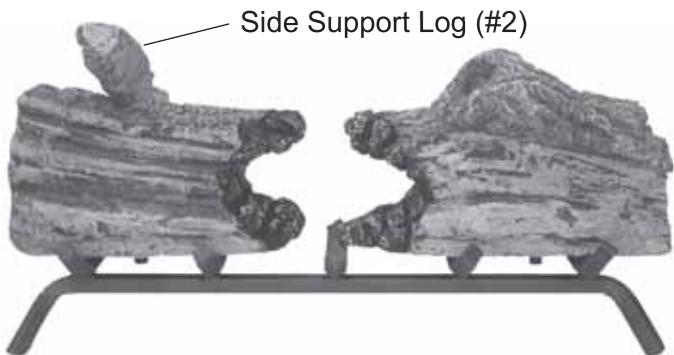

Figure 105 - Placing Side Support Log (#2) on Top Left of Log #1A
4. Place front end of Side Support Log #2 on top left of Log #1A. Rest other end of Log #2 on rear grate bar. See *Figure 105*.